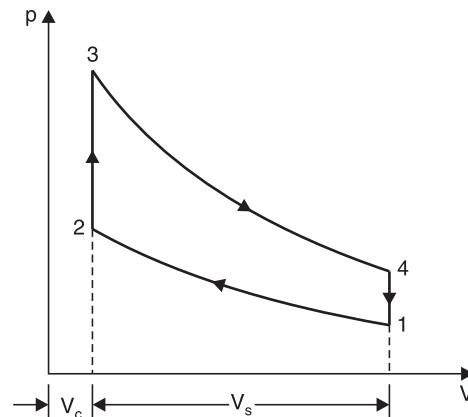

Fig. 4.13
**Solution.** Refer to Fig. 4.13.
**Solution.** (a) Refer to Fig. 4.13 (Example 4.14).